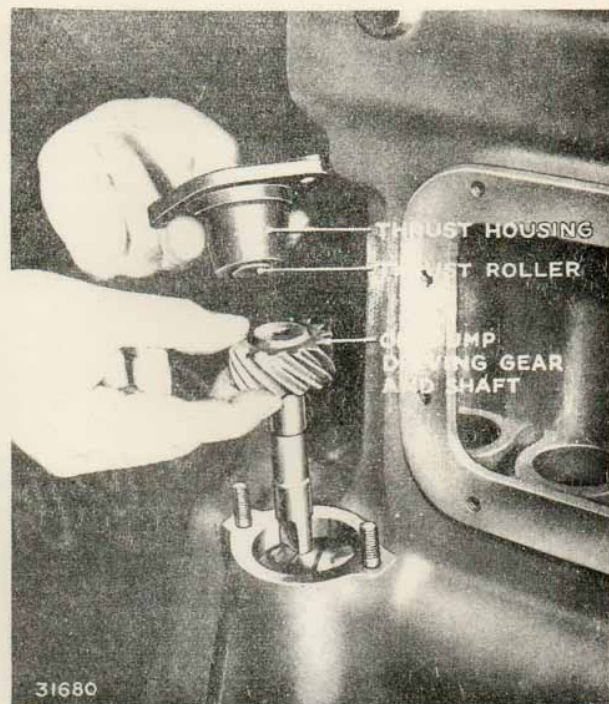

FIG. 85. FITTING OIL PUMP DRIVE GEAR AND THRUST HOUSING (Engine in Stand)
3. To inspect the oil pump driving gear. Remove the thrust housing at the rear under side of the engine block and withdraw the gear (Fig. 85). Backlash between the two gears should be .004 in. to .008 in.